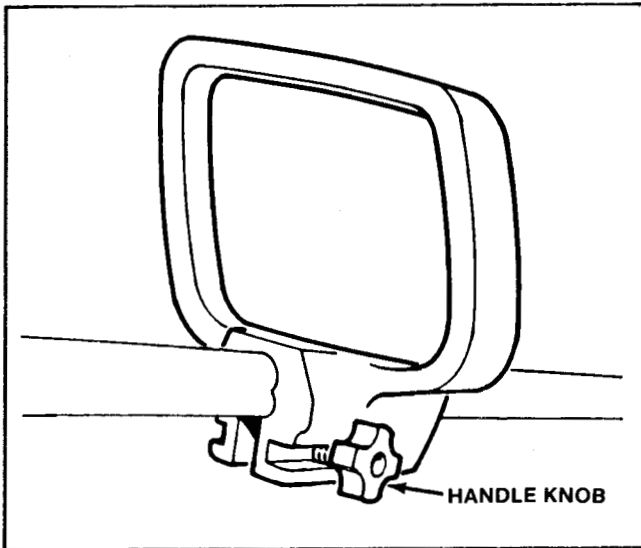

Figure 112
3. Loosen the handle knob. See Figure 112.